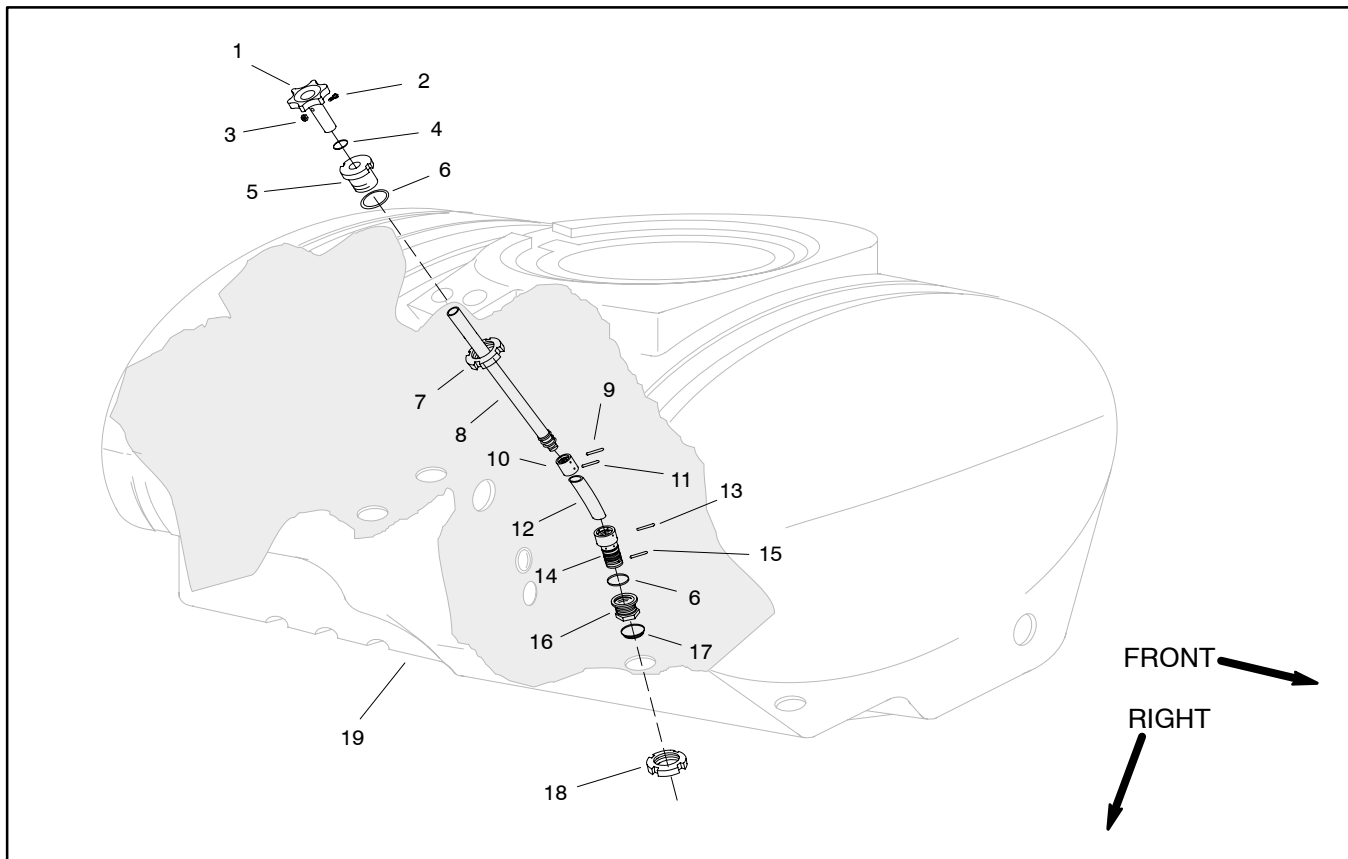

Figure 50
Disassembly (Fig. 50)
4. Raise tank lid and remove strainer basket to gain access to ringnut (item 7) that secures bulkhead (item 5) to tank. Loosen and remove ringnut from bulkhead. Slide bulkhead from drain tube.
5. Loosen and remove ringnut (item 18) that secures bulkhead fitting (item 16) to bottom of tank.
6. Lift drain tube until bulkhead fitting (item 16) clears bottom of tank. Lower drain tube assembly into tank and remove tube assembly through tank lid opening.
7. Disassemble drain tube using Figure 50 as a guide. Discard all removed o-rings and gaskets.
Assembly (Fig. 50)
1. Assemble drain tube using Figure 50 as a guide. Replace all removed o-rings and gaskets.